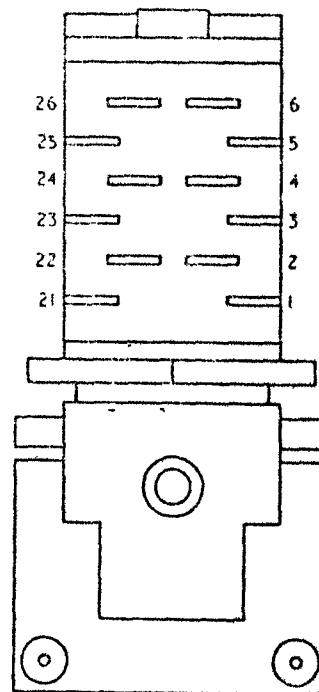

Fig 1 - Contact detail
2. On failure of relay 5945-99-053-0223 or when existing stocks are exhausted, use new relay Z37/5945-99-195-1173 as a direct replacement. For ease of soldering, contact sets 1, 2 and 3 are to be used with contact sets 24, 25 and 26. Arrangement of contacts is shown in Fig 1.